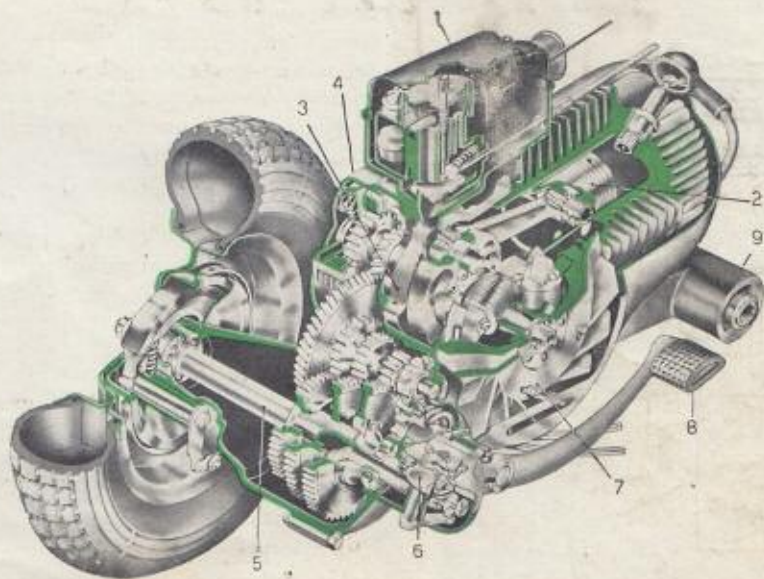
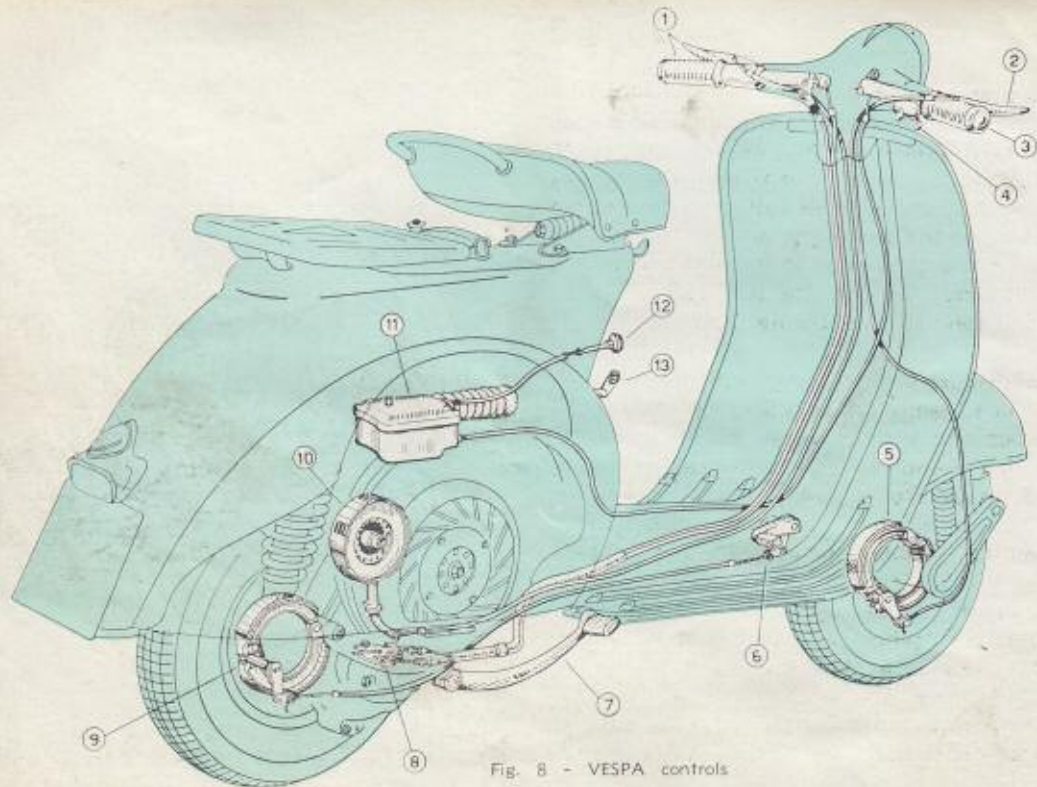

Fig. 4 - Section of engine
Fig. 8 - VESPA controls
Single horizontal cylinder, two-stroke, with deflector piston and rotary valve, i. e.: fuel mixture flow to the cylinder is controlled by the rotation of a crankweb (see Fig. 4).
The engine is pivoted to the chassis of scooter through the cylindric arm of the crankcase half, clutch side, provided with a spindle and two bushes (see Fig. 4).
**Transmission.** The engine (see Fig. 4) drives directly the rear wheel through clutch, cush drive and gear box.
**Clutch.** Multiplate, with lining adhering to the driving discs (see Fig. 4). Control by lever, on left hand side of handlebars (see Fig. 8), and adjustable cable.
**Gear box.** 3-speed drive with mesh gears in oil bath (see Fig. 4). Its adjustable twistgrip control is coupled with that of the clutch, on left hand side of handlebars (see Fig. 8).
**Handlebars** in light alloy, with arrangement for head lamp and speedometer. All control cables and electric wires, to be connected to the handlebars, are concealed inside them (see Fig. 8).